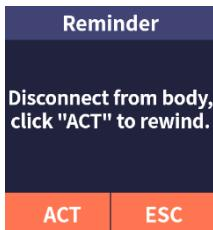

Figure 10.1
(1) Disconnect from body (as shown in Figure 10.1). click "ACT" to rewind the push rod and the user can continue to replace the reservoir, or click "ESC" to return to the "More" interface.